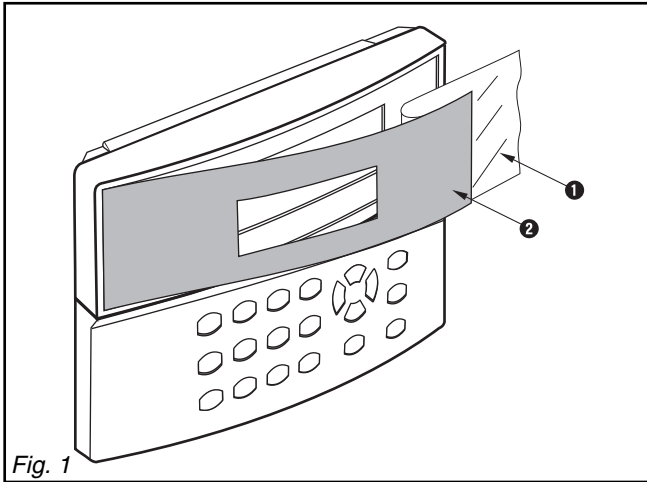
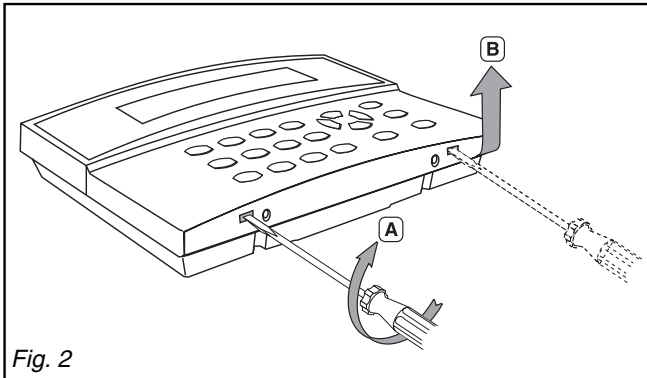
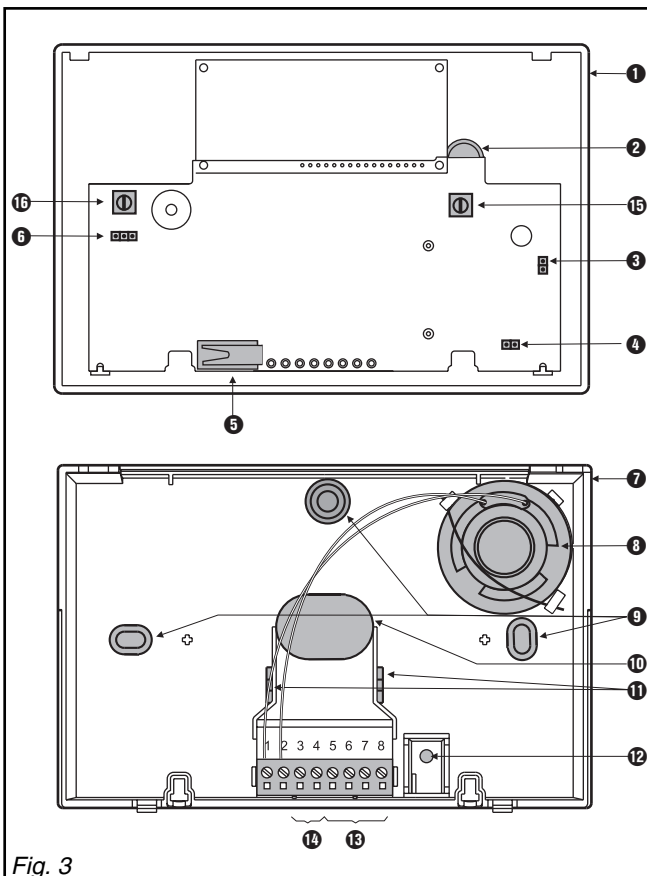

Fig. 1
Fig. 2
Fig. 3
3.1 Secure plastic front (fig. 1)
- 1 - Peel back the backing foil ① half way.
- 2 - Place the plastic front ② in the recess.
3.2 Open housing (fig. 2)
- 1 - Release both locking tabs (A) and remove top section (B).
3.3 Product overview (fig. 3)
- ① Mounting base,
- ② Circuit board SMK 51,
- ③ Jumper for the microphone sensitivity,
- ④ Jumper for speaker volume,
- ⑤ Tamper contact,
- ⑥ Jumper for the Buzzer
- ⑦ Cover of the Keypad,
- ⑧ Speaker
- ⑨ Mounting holes,
- ⑩ Cable inlet,
- ⑪ Cable clip,
- ⑫ Back tamper contact screw,
- ⑬ E-Bus connection,
- ⑭ Audio connection,
- ⑮ Potentiometer for LED display,
- ⑯ Potentiometer for buzzer volume.
3.4 Fit housing (fig. 3)
- 1 - Pull the cable through the cable inlet ⑩ .
- 2 - Secure the mounting base ⑨ using two screws.
- 3 - Use the cable clip ⑪ .
The sensitivity of the microphone can be set using the connector (fig. 3 item ③). Connector closed = max. sensitivity, connector open = min. sensitivity.
The volume of the speaker can be set using the connector (fig. 3 item ④). Connector closed = max. volume, connector open = min. volume.